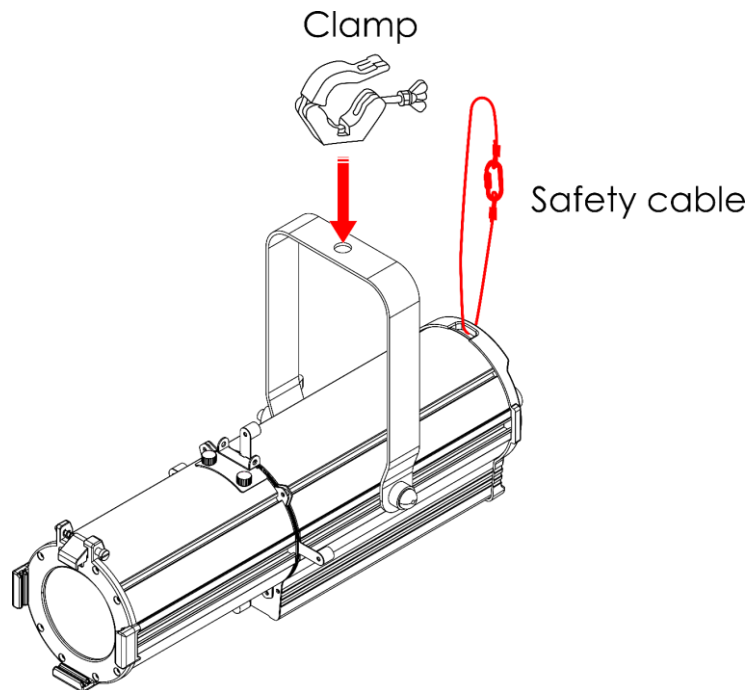

Fig. 08
- 01) Use a clamp to attach the device to the supporting structure, as shown in Fig. 08. Make sure that the device cannot move freely.
- 02) Secure the device with a secondary suspension, for example a safety cable. Make sure that the secondary suspension can hold 10 times the weight of the device. If possible, the secondary suspension should be attached to a supporting structure independent of the primary suspension. Put the safety cable through the **safety eye (02)**, as shown in Fig. 08.